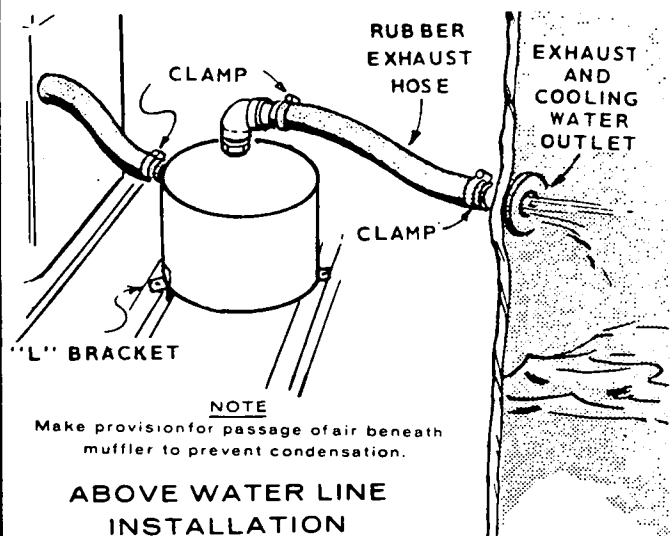

FIGURE 3. TYPICAL INSTALLATION
2. Connect the exhaust line (1-1/4 inch) to the marine elbow on the engine and to the exhaust inlet on the muffler. The distance from the base of the muffler to the upper elbow on the exhaust tubing from the muffler outlet must not exceed four feet (see Figure 3).
3. Connect the exhaust line to the muffler outlet and to the upper elbow. A conventional automobile tail pipe hanger bracket may be used to hang the upper elbow. Rigid pipe may be used in place of flexible hose for certain applications. See Figure 3. There must be a pitch of one-half inch per foot (i.e., a 2-1/2 inch drop for a 5 foot run) in the exhaust tubing between the engine exhaust elbow and the muffler inlet. Muffler may be mounted below the level of the engine if necessary. A minimum drop of one foot is necessary between the engine exhaust outlet on the hull to prevent water from washing into the system (see Figure 3). An increase of one standard pipe size for every ten running feet of exhaust from the muffler to the exhaust outlet is necessary to prevent excessive backpressure.